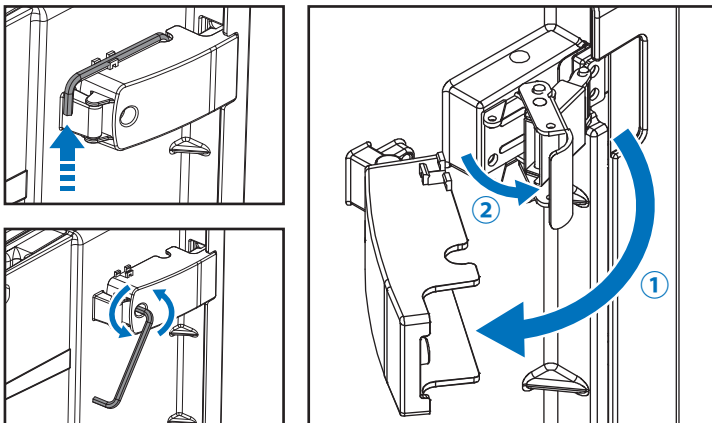

Figure 5-1: Open and close the door
1. Loosen the screws on both latch covers with hexagon wrench attached on the latch cover. (**Figure 5-1**)
2. Open the latch covers and release latches to open the door. (**Figure 5-1**)